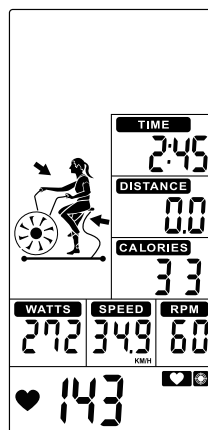

Figure 49
- ⑥ When Heart Rate goes between 65% ~ 85%, only will flash (Figure 49).
- ⑦ No signal input for 30s, buzzer sounds 1 short beep and enter to Wake-up mode.
- ⑧ Press START button once enter into PAUSE mode, Buzzer will sound for 0.5s per second within 30s. All values are displaying on LCD and flashing in every 2s. If continue to stop training for 5 minutes, buzzer sounds 2s and enter to Wake-up mode. Press START to resume workout.